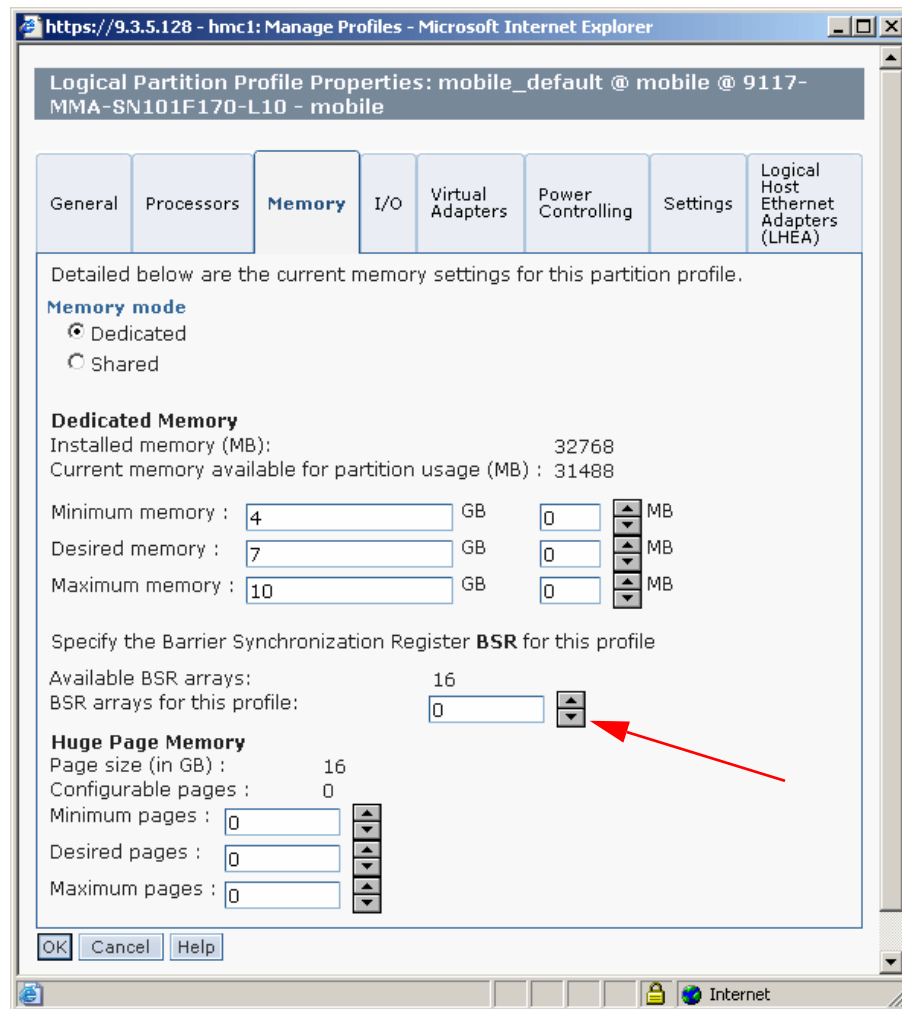

Figure 17-16 Setting number of BSR arrays to zero
10. Enter 0 in the BSR arrays for this profile field and click **OK** (see Figure 17-16).